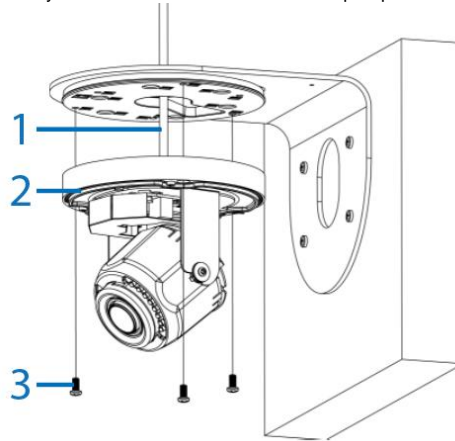

Figure 8
- C. Place the camera cable (1) (Figure 8) through the hole in the center of the adaptor plate.
- D. Hold the camera base (2) (Figure 8) up to the adaptor plate and align the three holes on the camera base with the three 'V' holes on the adaptor plate.
- E. Insert the three M4 x 0.7P x 10L screws (3) (Figure 8) into the three holes and securely attach the camera base to the adaptor plate.